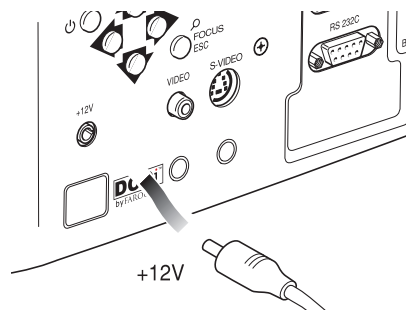

Fig. 15
- With exception of coaxial RCA/Phono type connectors, always double-check that the plug is inserted the correct way round to avoid damaging the plugs or the sockets on the projector **(Fig. 15)**..